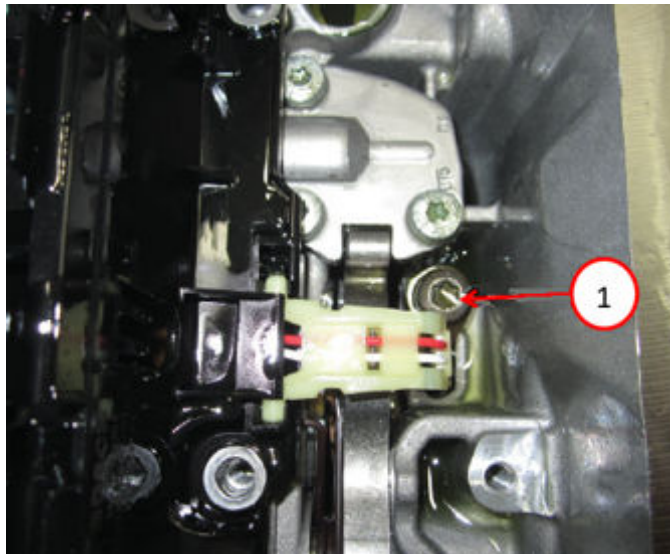

Fig. 48
68. If equipped, install the HIS and bolts Fig. 48. Tighten the HIS bolts to 8 N-m (71 In. Lbs.).